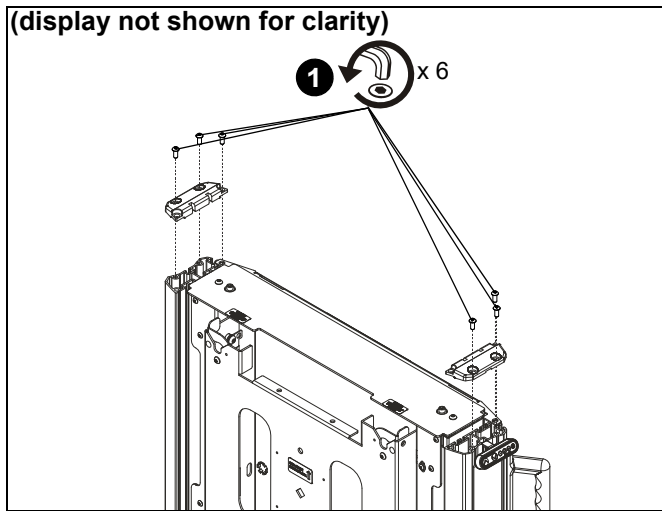

Figure 1
1. (XPD1U/XFD1U ONLY) Remove tabs from top of side channels by removing screws holding them to mount. (See Figure 1)